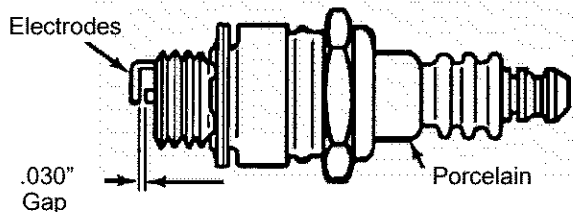

Figure 9
- Replace the spark plug if electrodes are pitted, burned, or the porcelain is cracked. See Figure 9.